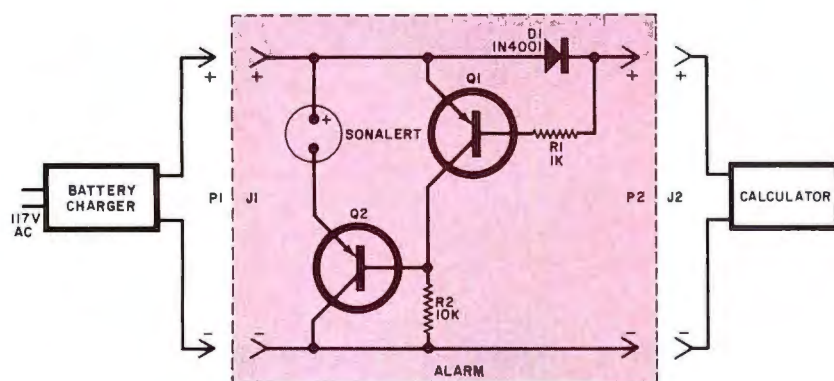

Fig. 1. When trickle current through *D1* stops, Sonalert is activated.
**The Alarm Circuit.** Simplicity is the key feature of this alarm. It is inserted between the charger and the calculator, as shown in Fig. 1, and draws a nominal amount of power from the charger. As long as a trickle charging current (at least 100  $\mu$ A) flows into the calculator, silicon diode *D1* conducts.
Fig. 1. The modem receiver uses noise-reducing active filtering before its PLL detector and delivers both 20-mA and EIA-compatible outputs. Transmitter accepts either EIA or 20-mA current to modulate two-frequency, two-band oscillator. Also shown here are the power supply and active hybrid for direct telephone-line connection.